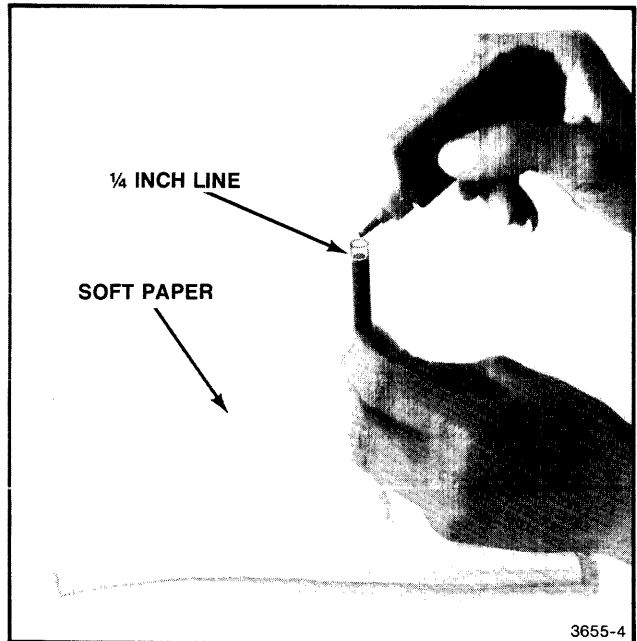

Figure E-3. Filling the 4662 Ink Cartridge.
4. Fill the cartridge with the squeeze bottle to the line, which is about 1/4 inch from the top of the cartridge. **DO NOT FILL PAST THE 1/4 INCH LINE** (see Figure E-3).